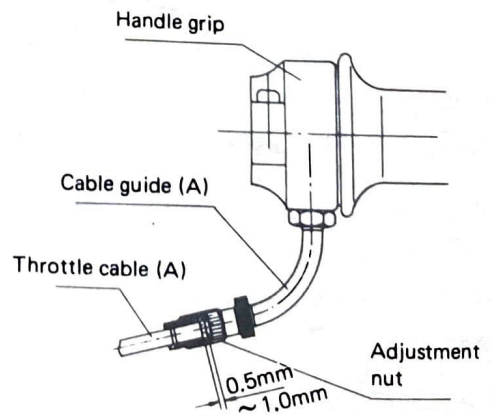

Fig. 2-3-6
- After this adjustment, pull both throttle cables (B) alternately, and engine speed will slightly increase from idling RPM.
- 2) Next, adjust the throttle cable (A) so that the gap as shown in Fig. 2-3-6 will be between 0.5 and 1.0 mm.
- While pulling the outer part of the throttle cable (A), turn the accelerator grip and check the play. If the play is excessive or insufficient, adjust the play with the adjustment screw.